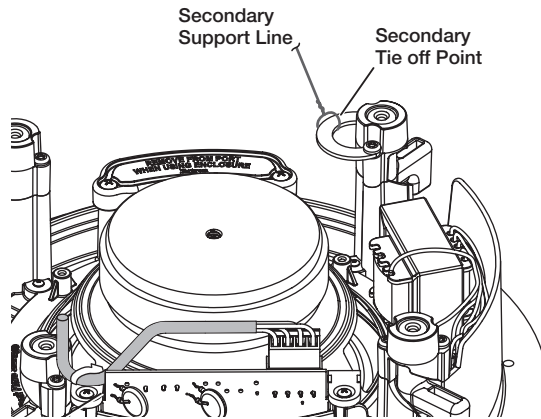
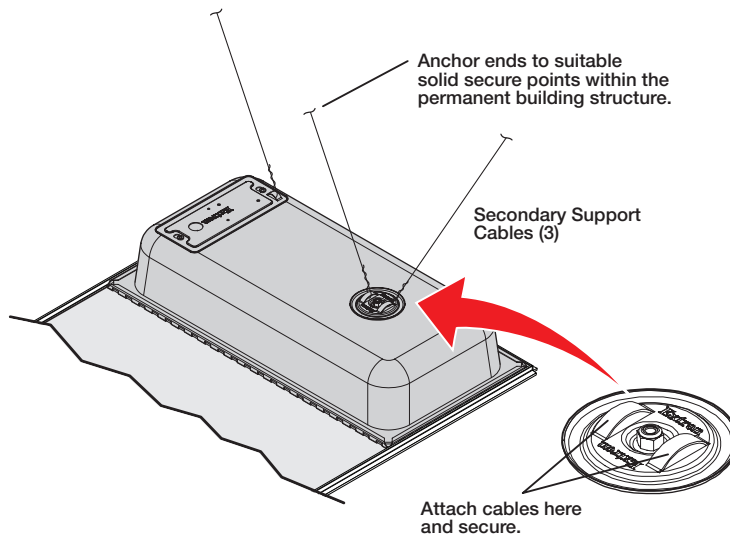

Figure 23. Attaching Secondary Support Lines: Open Back
Figure 24. Attaching Secondary Support Lines: Closed Back
21. Attach secondary support lines — If required, attach all of the secondary support lines as shown below. Figure 23 shows the open back configuration and figure 24 shows the closed back configuration.